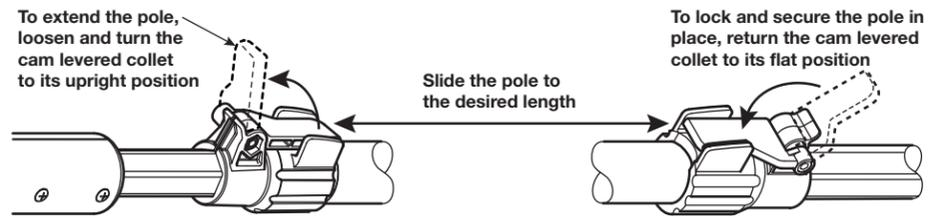

Fig. 16 How to Adjust the Length of the Pole Saw
1. To extend the pole, loosen and turn the cam levered collet to its upright position (Fig. 16).